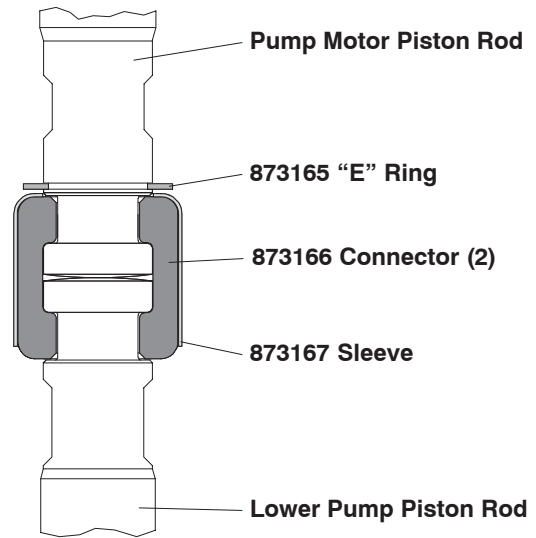

Figure 2
4. Using e-ring pliers, slide the "e" ring up far enough to allow the sleeve to move upward and release the two connectors (figure 2).